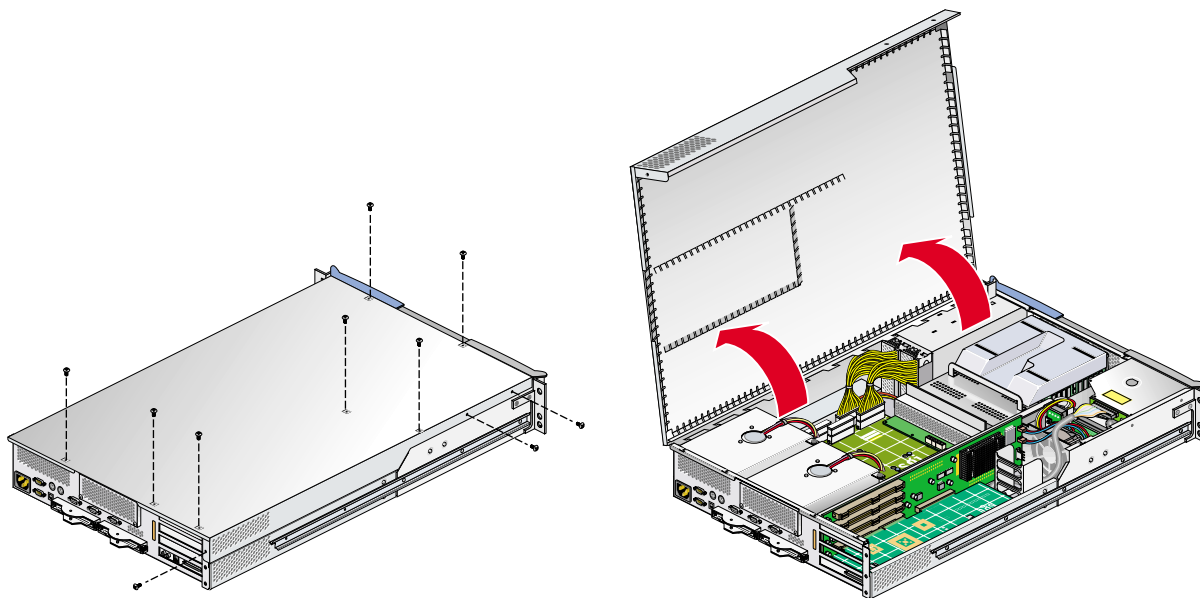

Figure 6-2 Opening the Cover to Install the Card
6. To access the card, remove the ten Phillips screws as shown in Figure 6-2 and lift the hinged cover. If you are installing a card into the top two PCI/PCI-X slots, you can install it without removing the module from the rack.